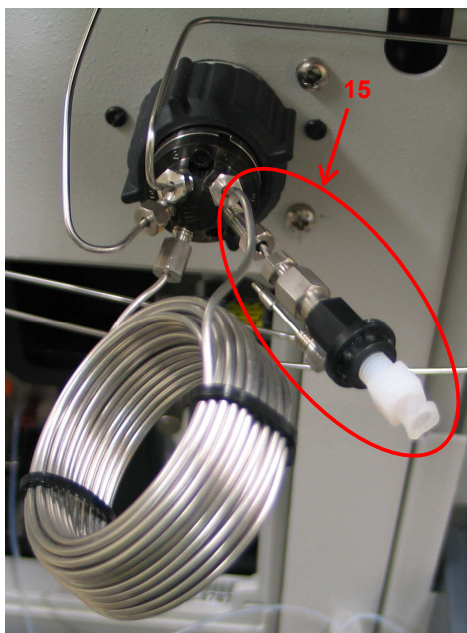

Figure 18: Shows the direct injection port into the valve
21. *Figure 18* shows the injection port filler (P/N 3710058200 Tube, Loop Filler (MIV)) attached directly to the preparative manual injection valve in position 6 (**15**). This is the recommended configuration.